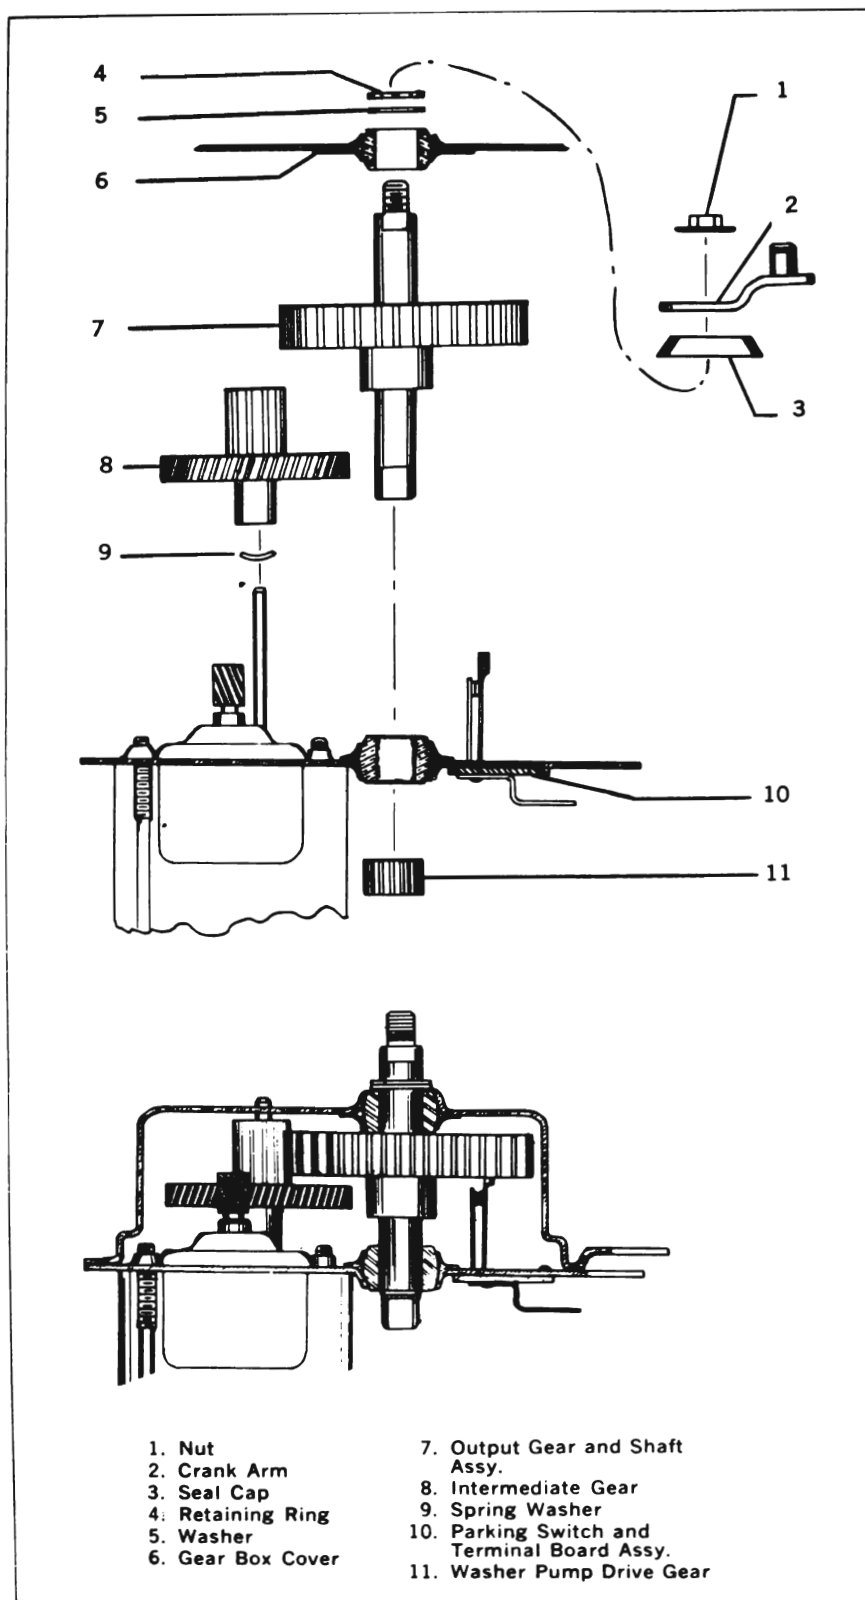

Figure 10-108—Gear Box Assembly
5. Remove output gear and shaft assembly, then slide intermediate gear and pinion assembly off shaft. (Figure 10-108).